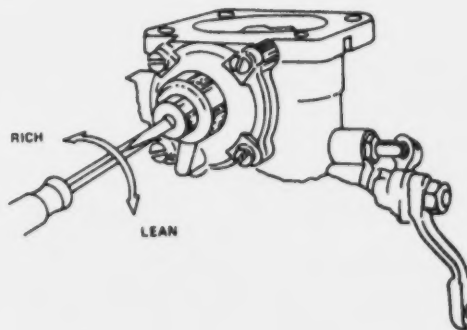

Figure 5-45. Adjusting carburetor discharge nozzle limiter
(3) If the mixture checks indicate a poor mixture setting, adjust the discharge nozzle to get a maximum rise not to exceed 50 rpm in the off-idle range, or until smooth engine operation is restored (see figure 5-45).